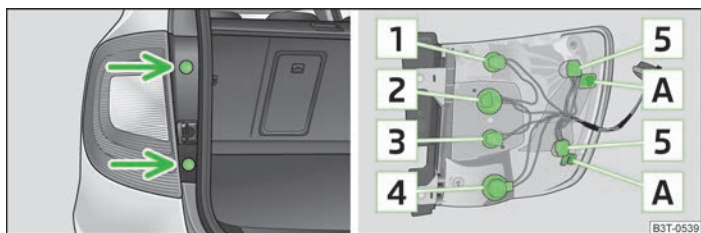

Fig. 191 Installing a tail light (Combi)
Overview of the location of the bulbs » Fig. 191.
- Remove the plug » Fig. 191 and unscrew the tail light with a torx wrench » page 196, *Vehicle tool kit*.
- To re-install the tail light, first of all guide it with the openings  » Fig. 191 on to the bolts on the bodywork.